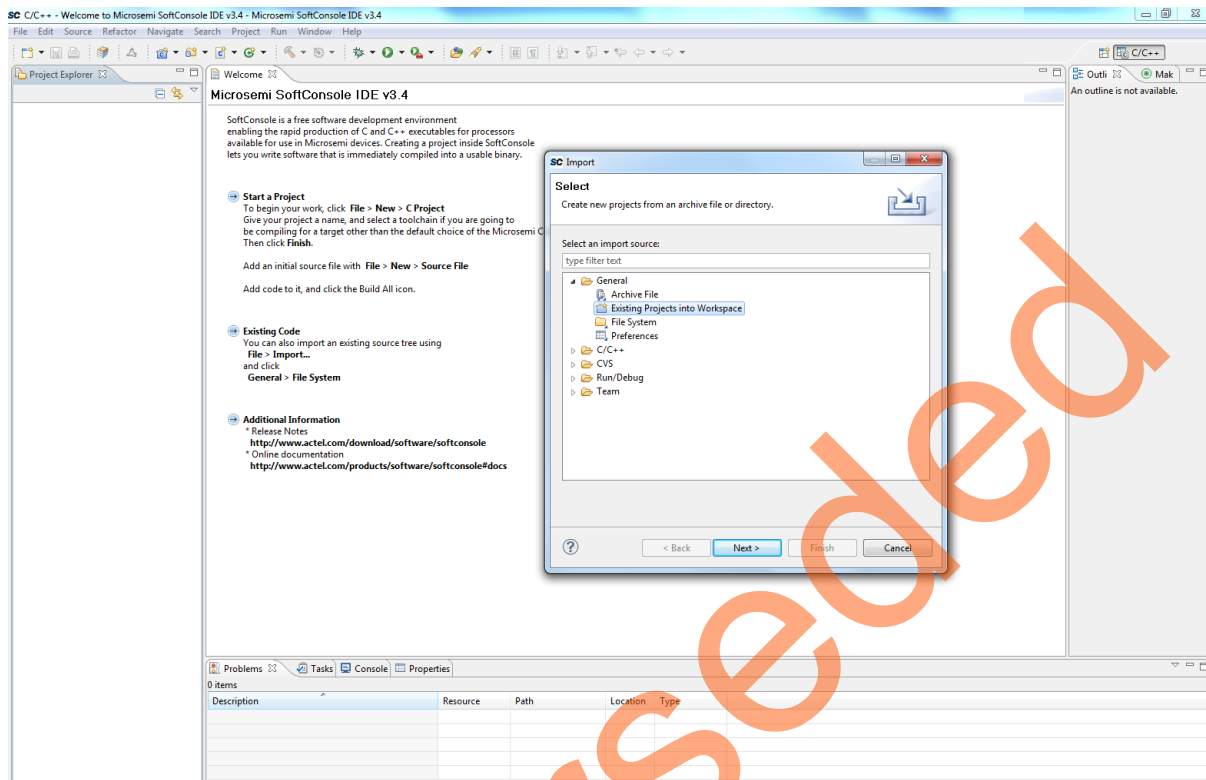

Figure 22 • SoftConsole IDE- Existing Projects Into Workspace
3. Navigate to **General > Select Existing Projects into Workspace** as shown in Figure 22.